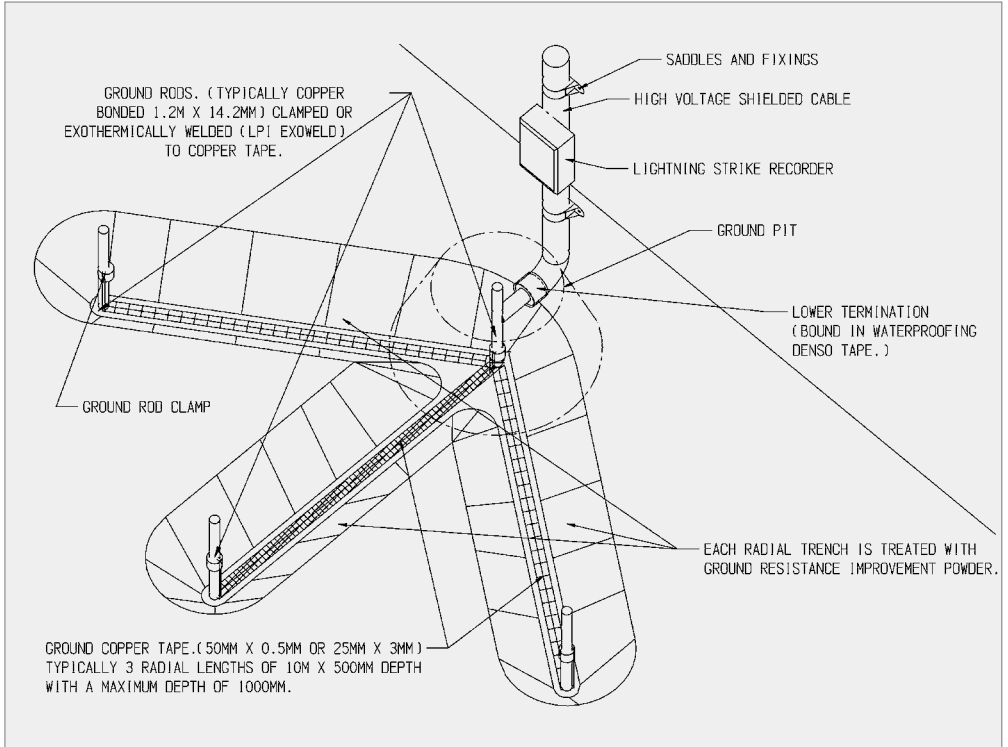

Figure 8.
LPI recommends the installation of a radial lightning earth as illustrated in figure 8 on page 15.
LPI recommends the installation of a radial lightning earth as shown in figure 8.
- A ground pit should be installed where the end of the down-conductor terminates to the lightning earth as shown in figure 8. This gives an access point for disconnection and future testing.